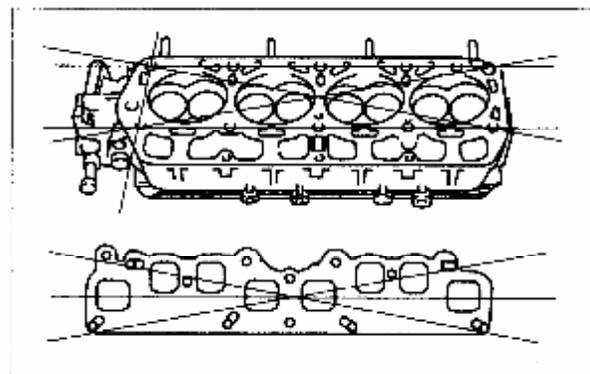

Figure3-6 Cylinder Head warpage Mesurement
**3.1.6** Check cylinder head for crack, and follow procedures indicated in figure 3-6 to measure warpages of cylinder head base and sides where intake and exhaust manifold are installed.